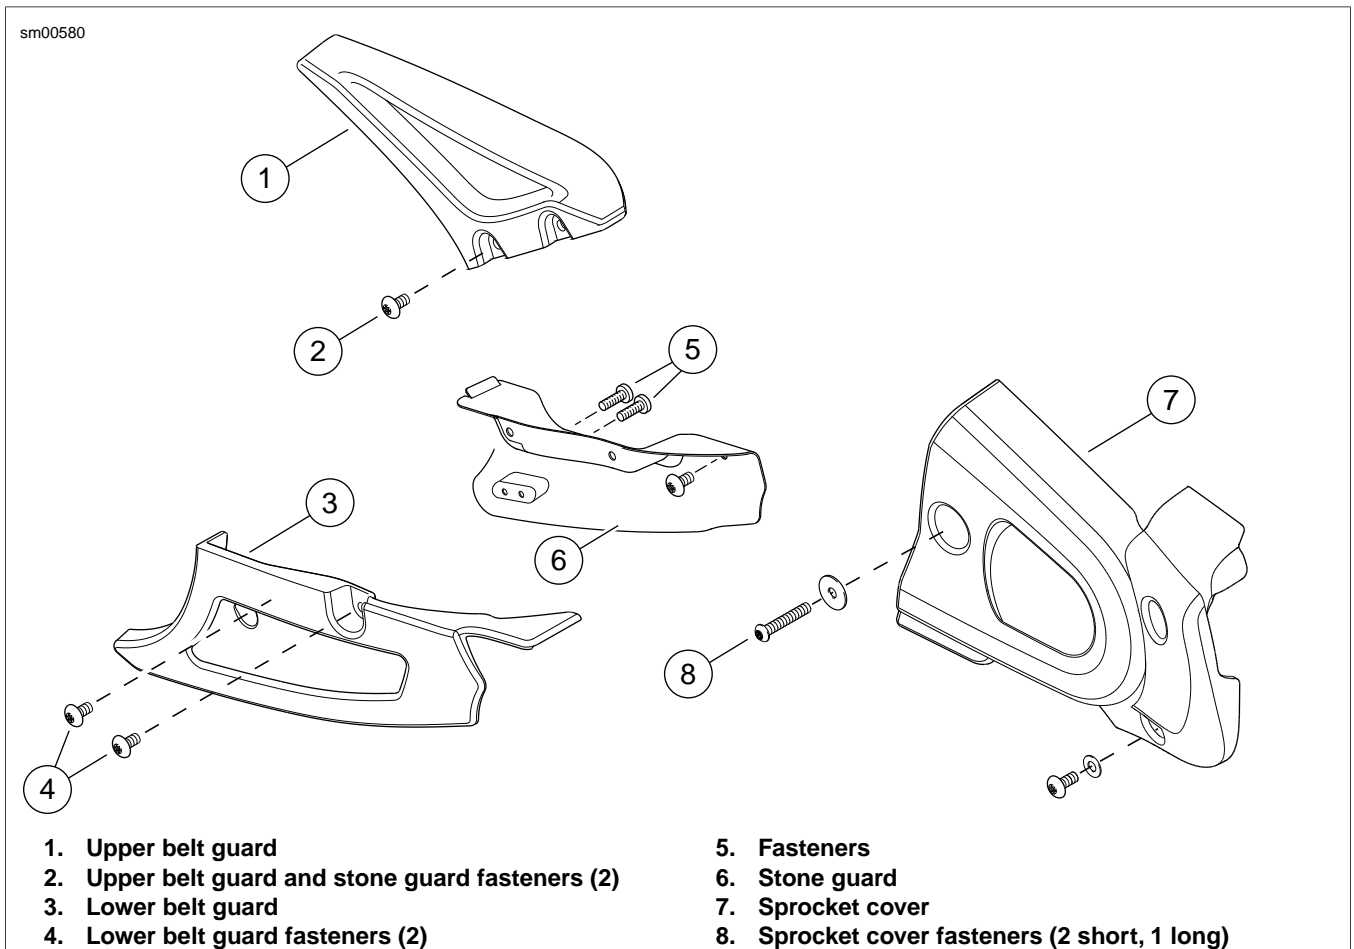

Figure 2-163. Belt Guard Assembly
5. See Figure 2-163. Remove lower belt guard (3) by removing the fasteners (4).
6. Once the lower belt guard has been removed, remove the metal stone guard (6).
7. Remove upper belt guard (1) by removing fasteners (2) from swingarm.
1. See Figure 2-163. Install upper belt guard (1) to swingarm brace tightening fasteners (2) to 12-36 **in-lbs** (1.4-4 Nm).
2. Install stone guard (6) and tighten fasteners to 12-36 **in-lbs** (1.4-4 Nm).
3. Install lower belt guard (3) and tighten fasteners (4) to 12-36 **in-lbs** (1.4-4 Nm).